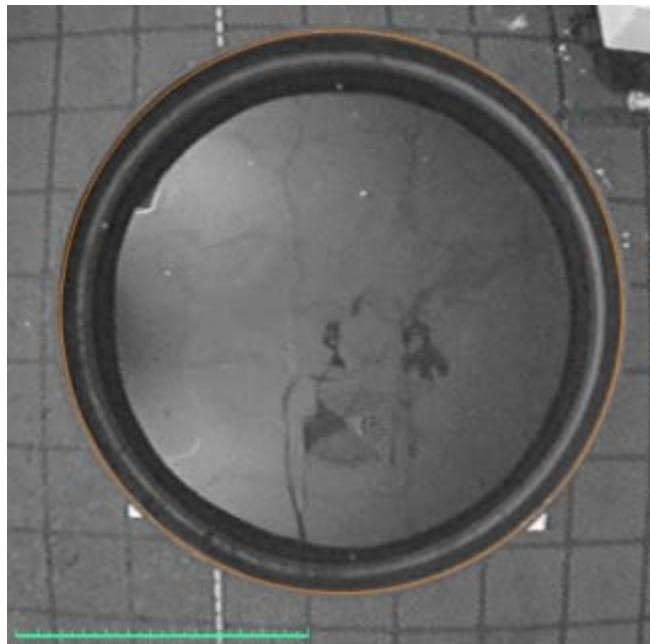

Figure 5. The apparatus map after we've drawn the outline of the water-maze.
6. Use these techniques to resize and move the ellipse until it nicely outlines the water-maze in the video picture, as in figure 5.